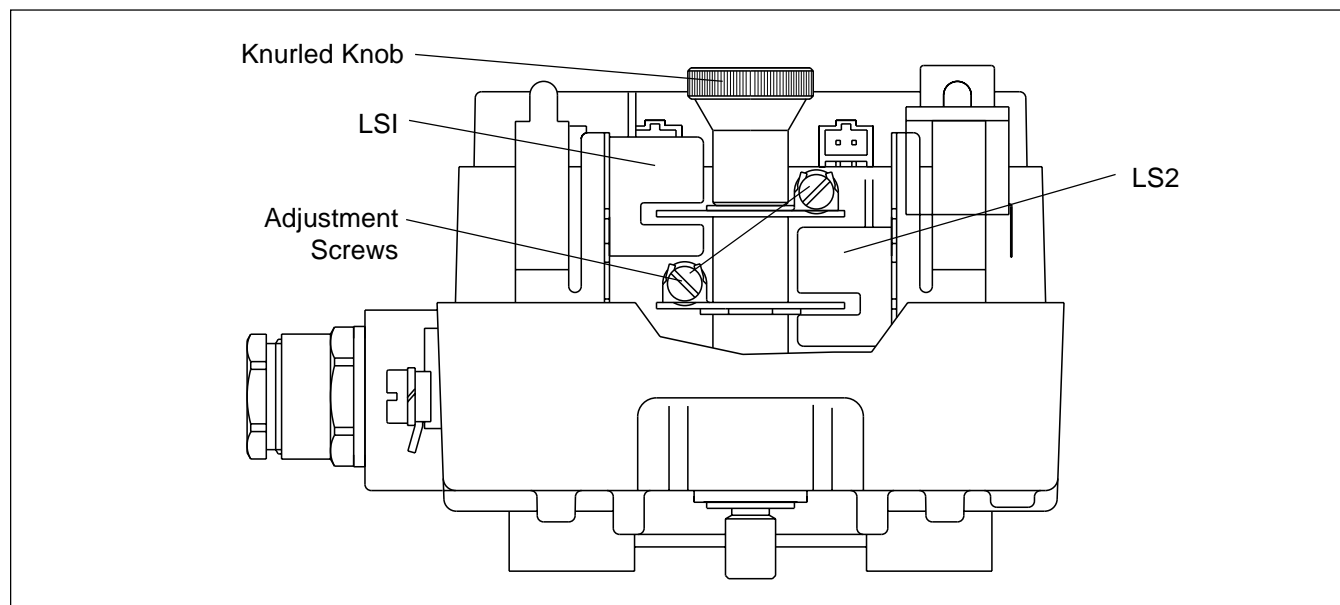

Figure 13: Proximity Vane Type Switch with Positioner (side view)
The switching points of the limit switches can be set by an adjustment of the vane as follows (Figure 13):
1. Loosen the knurled screw (Figure 13) at the stroke lever axis (1/2 to 1 rotations).